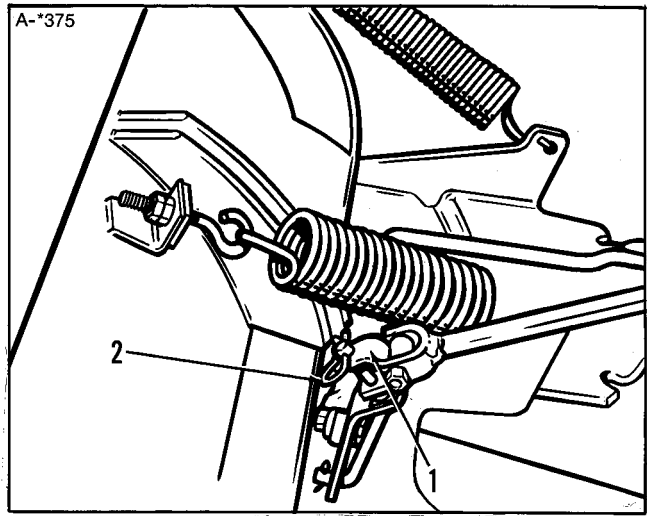
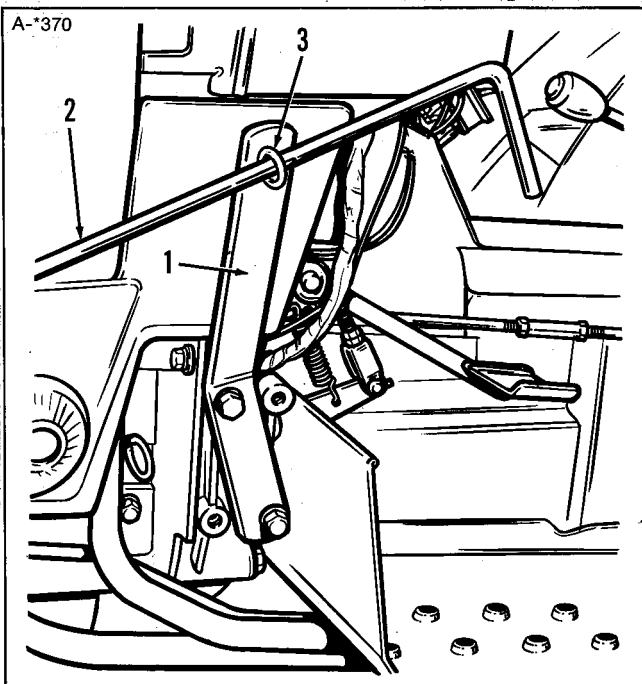

Figure 5.
Figure 4.
4. Attach the support bracket (1, figure 4) to the side of the tractor as shown with two M12 x 1-1/2 x 40 MM capscrews and 12MM lockwashers. Do not torque more than 35 ft. lbs. (48 N.m).
5. Attach the control rod (2) with the eyebolt (3) lockwasher and 1/4 nut.
6. Attach front end of control rod to dozer blade by placing the clevis (1, figure 5) onto the pin and securing with the spring clip (2).